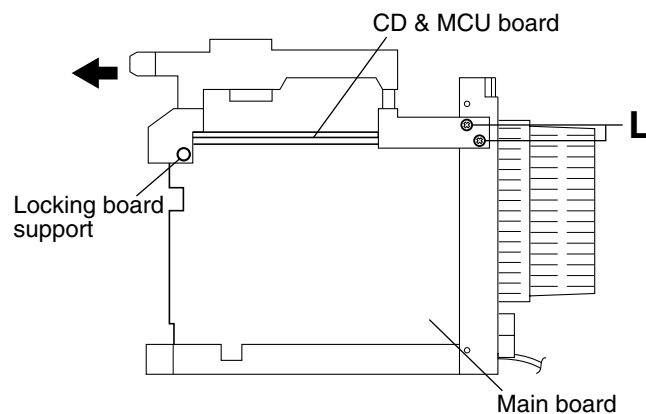

Fig.15
5. Slide the CD mechanism assembly toward the front (in the direction of the arrow) and remove it from the locking board support of the main board. (See Fig.15.)